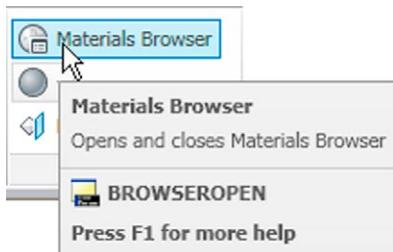
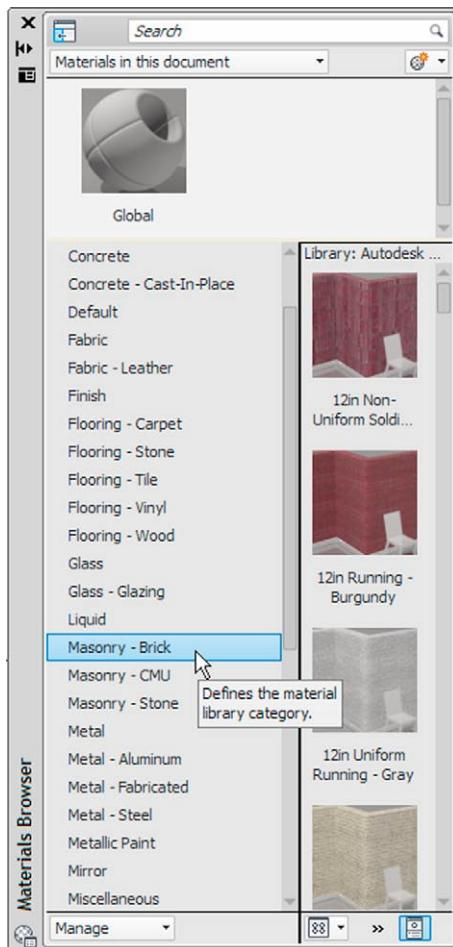

Fig. 15.3 The **Materials Browser** button in the **Render/Materials** panel
Fig. 15.4 The Materials Browser palette showing the **Brick** list
*Click* **Materials Browser** in the **Render/Materials** palette (Fig. 15.3). The **Materials Browser** palette appears *docked* at an edge of the AutoCAD window. *Drag* the palette away from its *docked* position. *Click* the arrow to the left of **Autodesk Library** and in the list which appears, *click* **Brick**. A list of brick icons appears in a list to the right of the **Autodesk Library** list (Fig. 15.4).